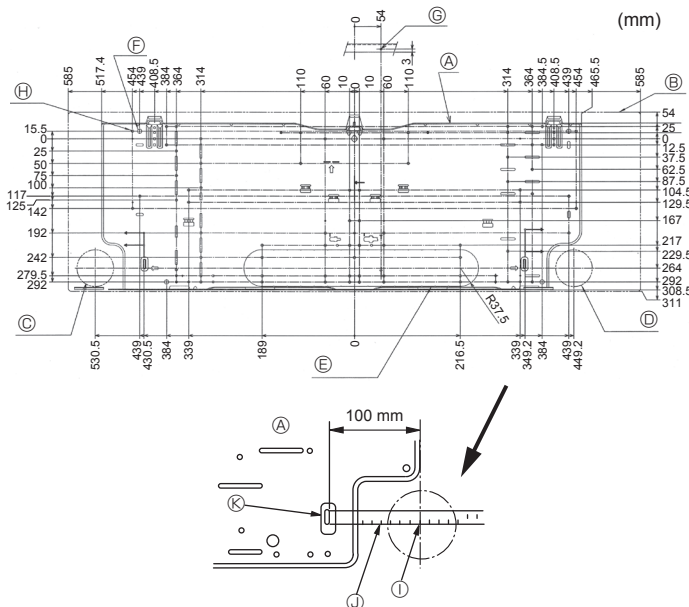

Fig. 3-2
①	Mount board	1	Fix at the back of the unit
②	Tapping screw 4 × 25	7
③	Felt tape	2
④	L-shaped connection pipe	1
⑤	Charge nut	1
⑥	* Wireless remote controller	1
⑦	* Remote controller holder	1
⑧	* Alkali batteries (size AAA)	2
⑨	* Tapping screw 3.5 × 16	2
⑩	Spacer	1	Make use of packaging material
3.2. Installing the wall mounting fixture (Fig. 3-2)